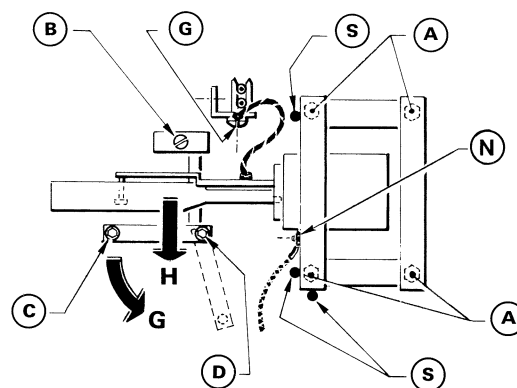

Figure 5.16
- Loosen ground wires by removing screw G and nut N (Figure 5.16)
Unscrew the four screws A (magnetic pot) Figure 5.16 access holes under the table
Unscrew the screws C and D, (remove the screw C and turn the guide as shown Figure 5.16 - (G direction)